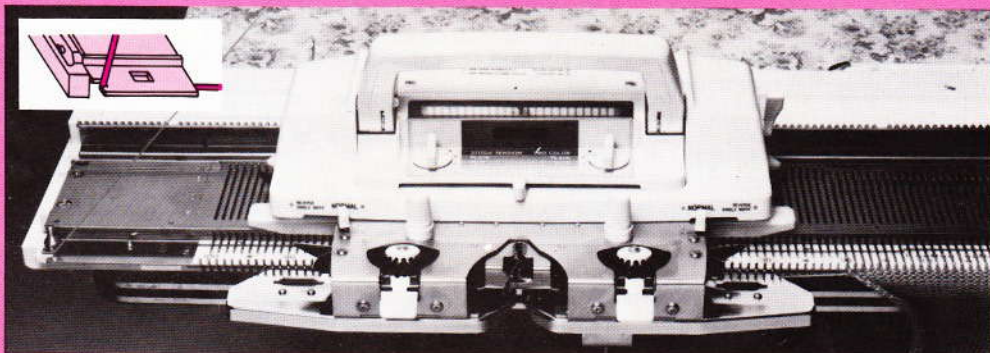

Fig. 59
- Take the yarn out of the yarn-guide and leave it at one end of the needle bed (fig. 59).
- Take the yarn out of the yarn-guide and leave it at one end of the needle bed (fig. 59, page 22),